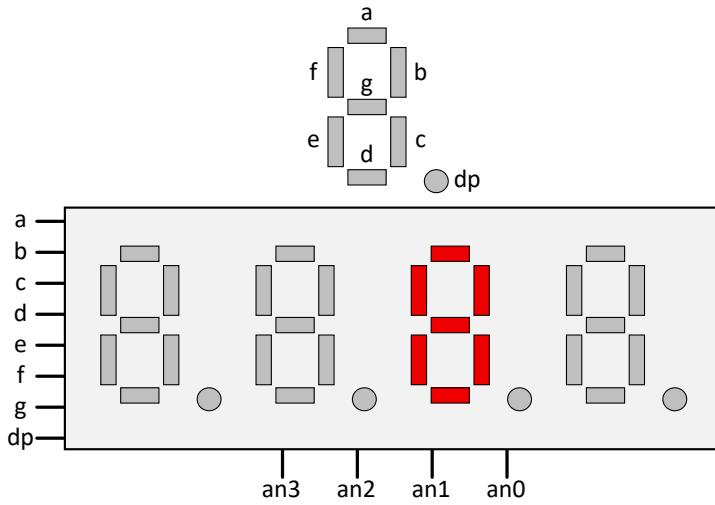

Figure 17. 7-segment Display in Basys3 Board
- ii. The 7-segment display is shown in Figure 17.
- To print digit 3, segments a, b, c, d, g need to be turned on, as shown in Figure 17.